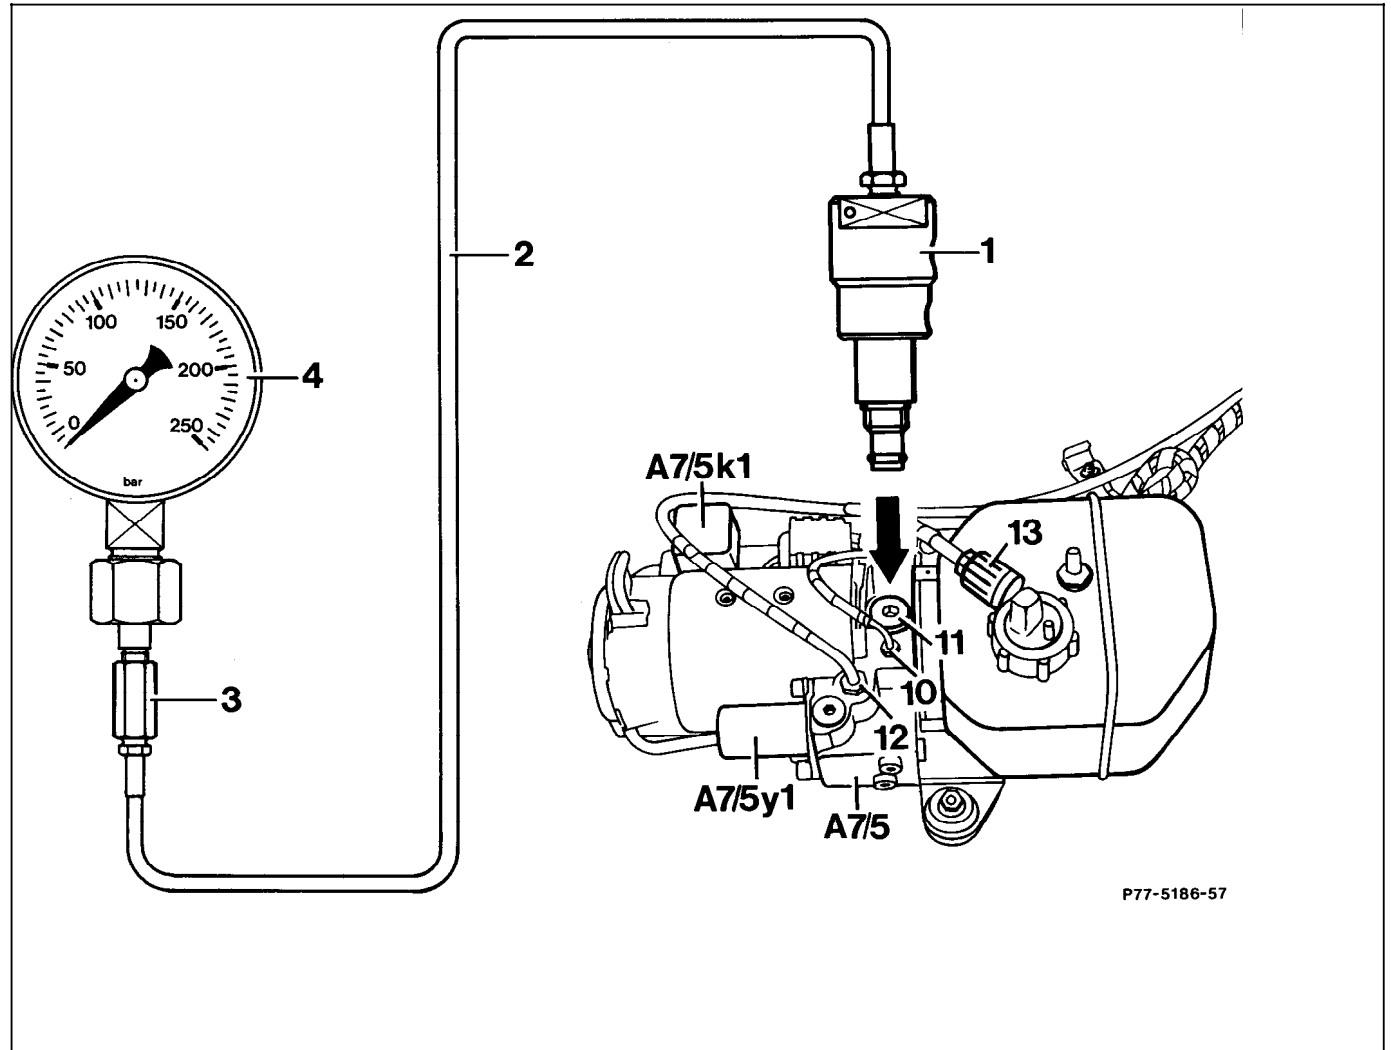

Figure 1
- Connection of test equipment to hydraulic unit (Figure 1).